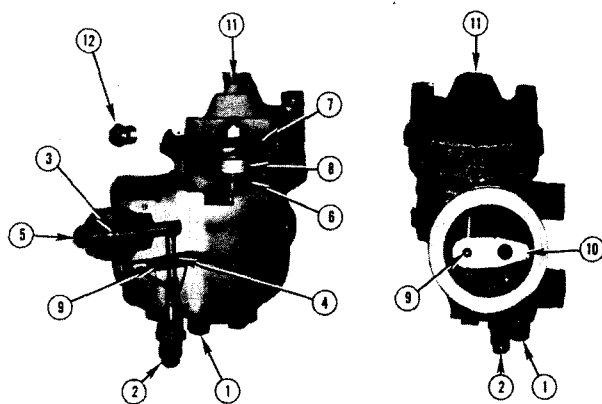

Fig. 5-13, (F-5244). Aneroid cutaway
The aneroid control, Fig. 5-13, provides a fuel by-pass system that responds to air manifold pressure and is used on turbocharged engines for close control of exhaust smoke.
1. Fuel from the fuel pump enters the aneroid and is directed to starting check valve area (5, Fig. 5-13).
2. The starting check valve (3) prevents aneroid from by-passing fuel at engine cranking speeds. For speeds above cranking, fuel pressure forces the check valve open, allowing fuel to flow to valve port (4) of shaft (9).
3. Shaft (9) and its bore form a fuel by-pass valve. This shaft and bore allows passage or restricts fuel flow.
4. The shaft and sleeve are by-passing fuel when arm (10) of lever is resting against adjusting screw (1). The amount of fuel by-passed is adjusted by this screw, which protrudes from bottom of aneroid.
5. The lever arm connected to piston (8) by actuating shaft (6), rotates shaft; closing valve port. The lever is rotated by action of air intake manifold pressure (11) against piston and diaphragm (7), moving actuating shaft downward against resisting spring force.
9. Fuel allowed to pass through by-pass valve is returned (2)